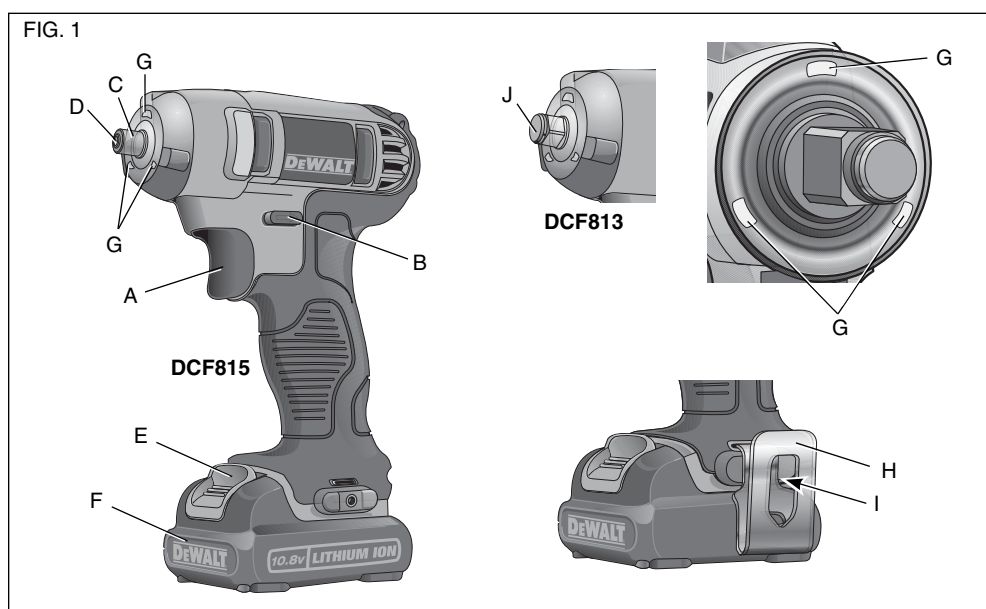

FIG. 2
### Charging Procedure (Fig. 2)
- Insert the battery pack (F) into the charger, as shown in Figure 2, making sure the pack is fully seated in charger. The red (charging) light will blink continuously indicating that the charging process has started.